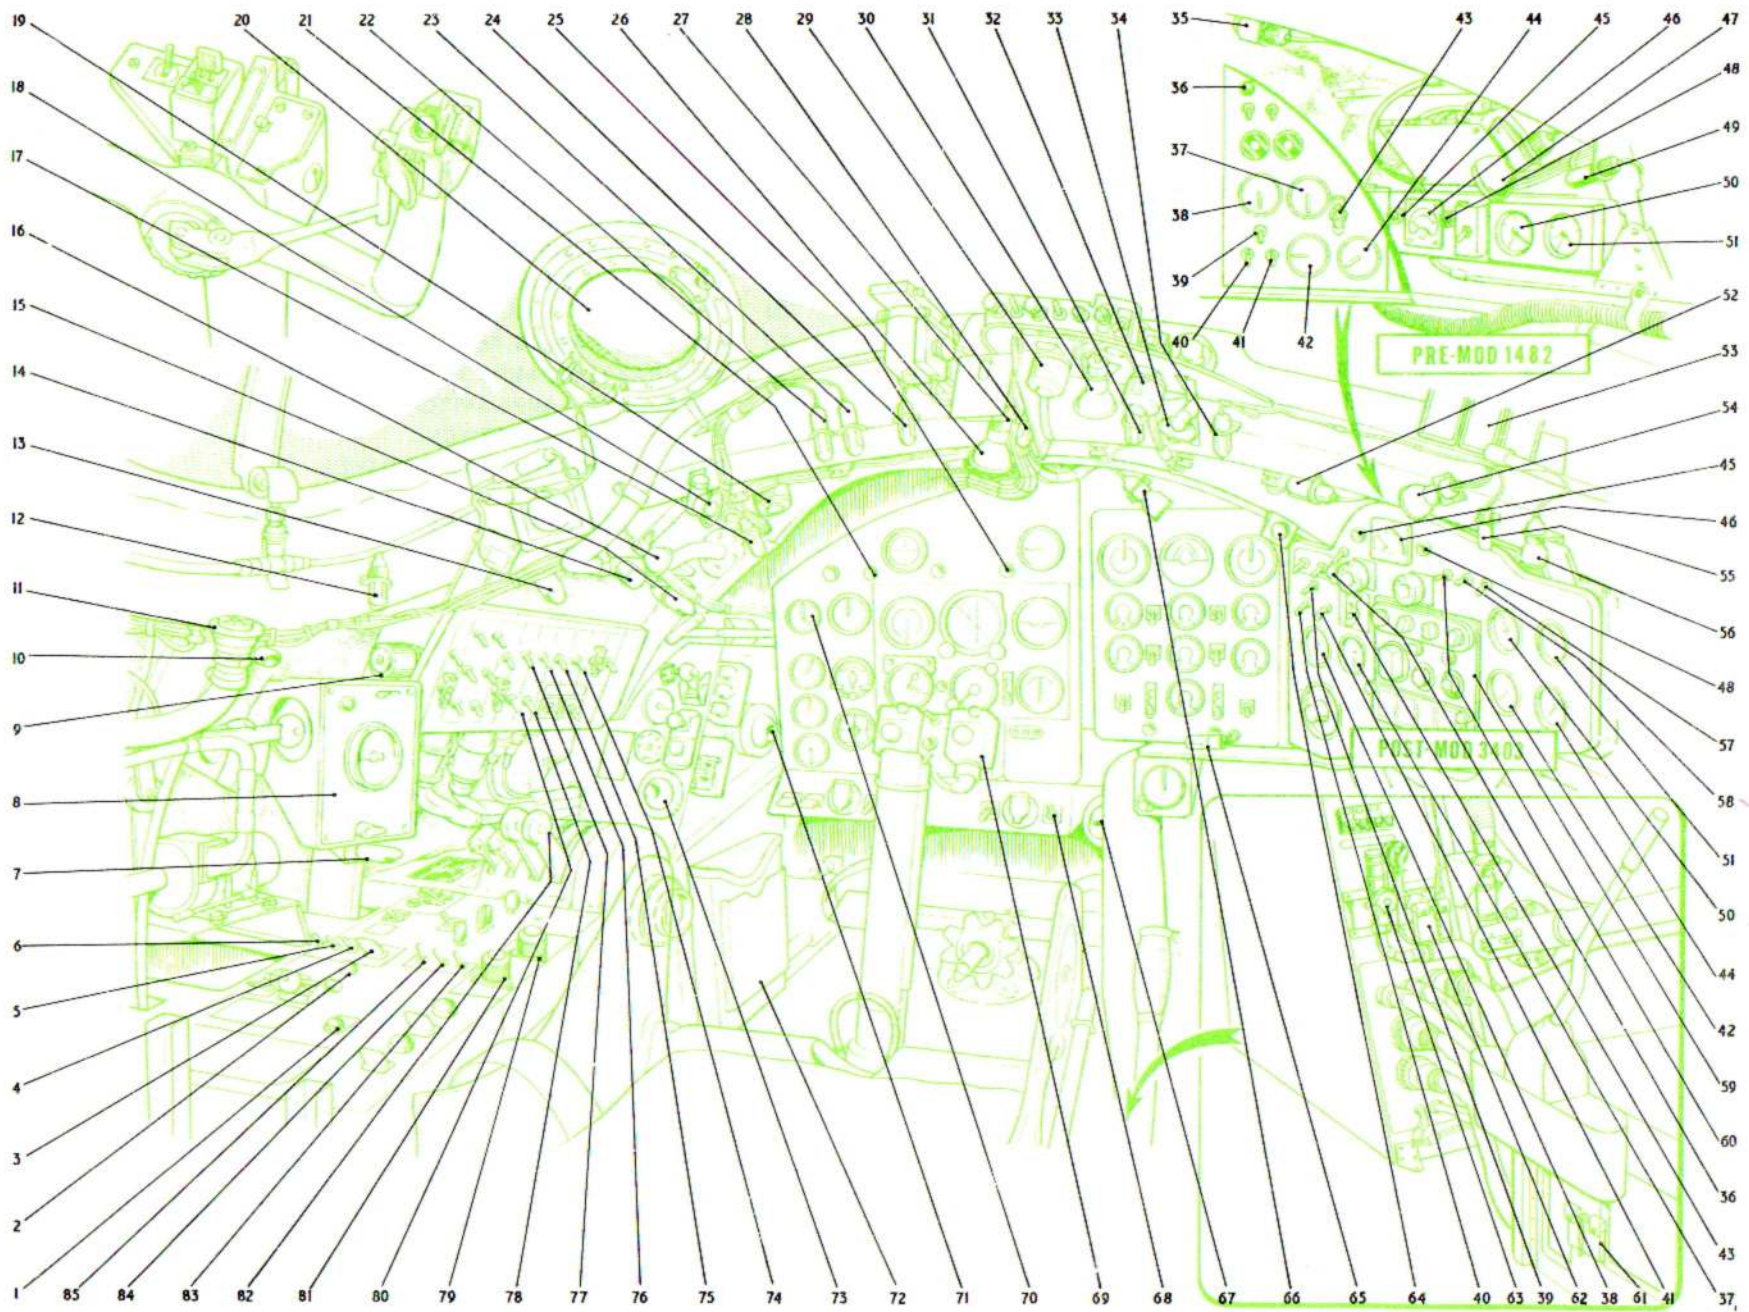

Fig.4. Miscellaneous equipment (B(I) Mk.6 aircraft)
## KEY TO FIG.4 (MISCELLANEOUS EQUIPMENT - B (I) MK.6 AIRCRAFT)